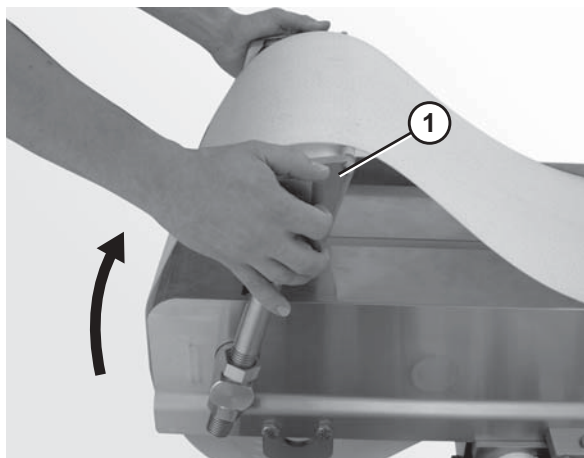

Figure 48
1. Place the idler tail (Figure 48, item 1) in the UP position.